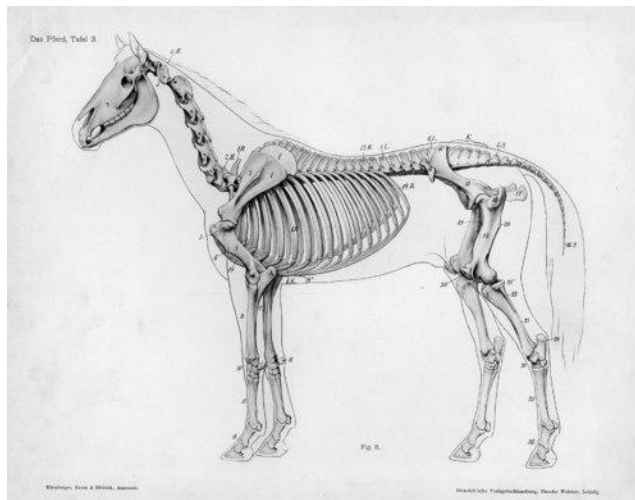

Figure 6: The skeletal structure of a horse, which can be used to plan the wireframe of a horse-like doll.
<p>2. With your design in mind, research the anatomical structures of the creature you want your doll to resemble, such as the skeletal and muscle structure.</p> <p>See Fig.6 for example.</p>	<p>Looking at the anatomical structure of the bones of a canine was instrumental to the creation of the finished doll in these instructions.</p> <p>TIP! Even if the doll you want to make is exaggerated or fantastical, knowing how bone and muscles work will make your doll more stable and better designed.</p>
2. Draw out a silhouette of your doll using paper and pencil at the exact size you decided on. Omit the fur for now, and focus on the underlying muscle structure.	<p>You should have something like this:</p>  <p>Figure 7</p> <p>TIP! Notice that this silhouette looks a bit like the one around the bone structure of the horse in Fig. 6. You can even trace the silhouette.</p>